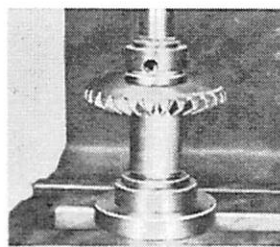

Figure 12. Propeller Gear on Shaft
NOTE: On propeller shafts without shoulder on gear end, place spacer on propeller shaft gear. Place gear on Propeller Shaft Gear Tool (91-26376A1) with teeth facing up (Figure 12) and set propeller shaft (smooth end) and spacer into propeller gear, aligning drive pin holes in gear and shaft. Press shaft into gear until seated.
4. Place drive pin and spring clip in position over end of gear. (Refer to Figure 12.)